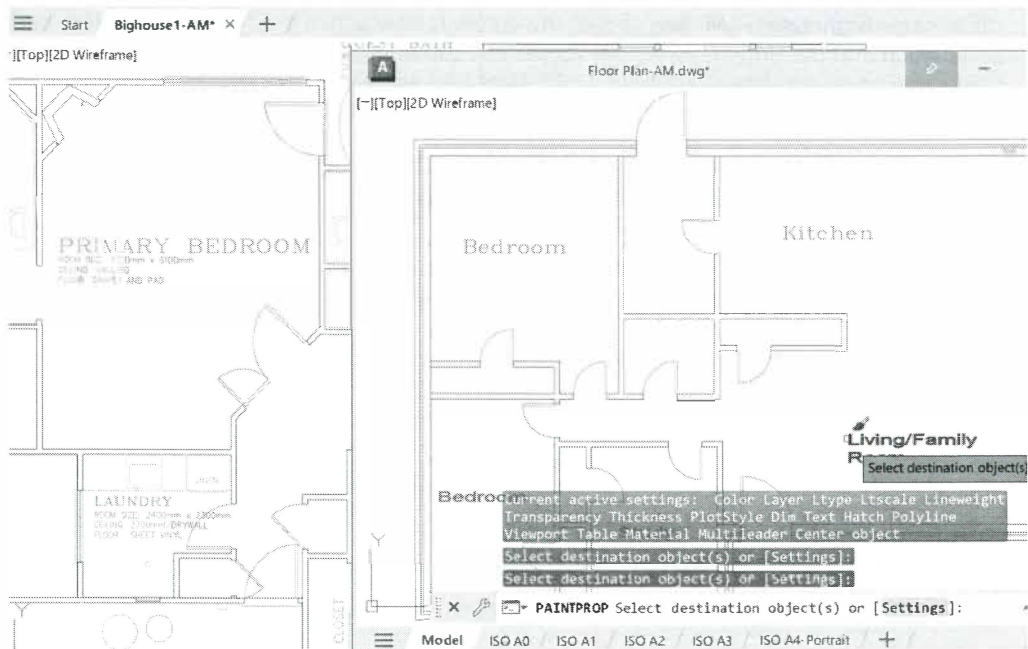

Figure 1-48
10. Click inside **Floor Plan-AM.dwg** once to activate it (the brush cursor is now available in **Floor Plan-AM.dwg**). Select each of the text labels in **Floor Plan-AM.dwg** as the destination object, as shown in Figure 1-48. Press <Enter> to exit the command. The text properties are matched in both drawings.